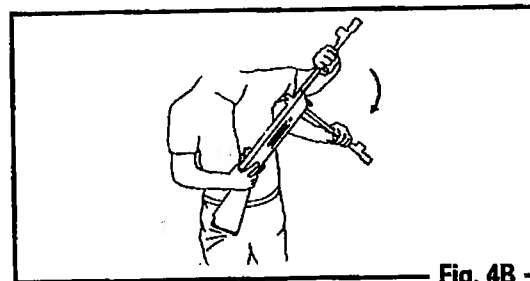

Fig. 4B
- Some find it easier to cock the airgun when bracing the butt of the airgun against your leg (Fig. 4B).